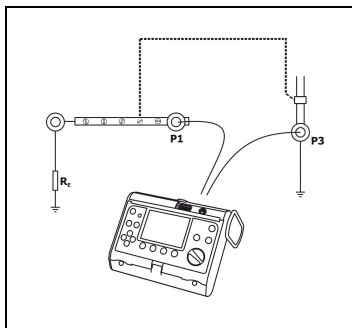

Figure 17. Connection of the meter.
- connect the meter with cables to the network socket of the board in accordance with Figure 17,